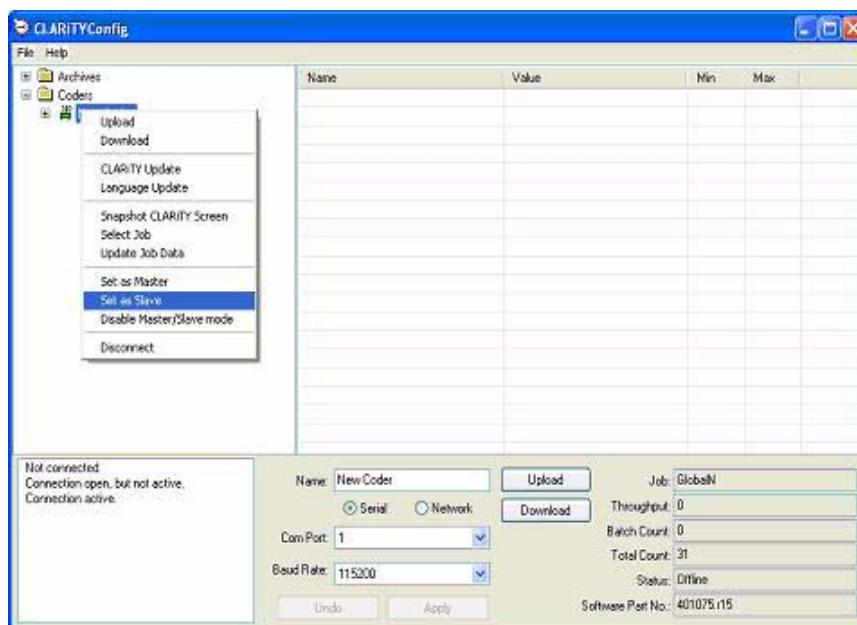

Figure 10-2: CLARiTY Config - Slave Setup
- 2 Right click on the 'New Printer' icon when the icon turns 'green' and Select 'Set as Slave', from the list as shown in Figure 10-2.